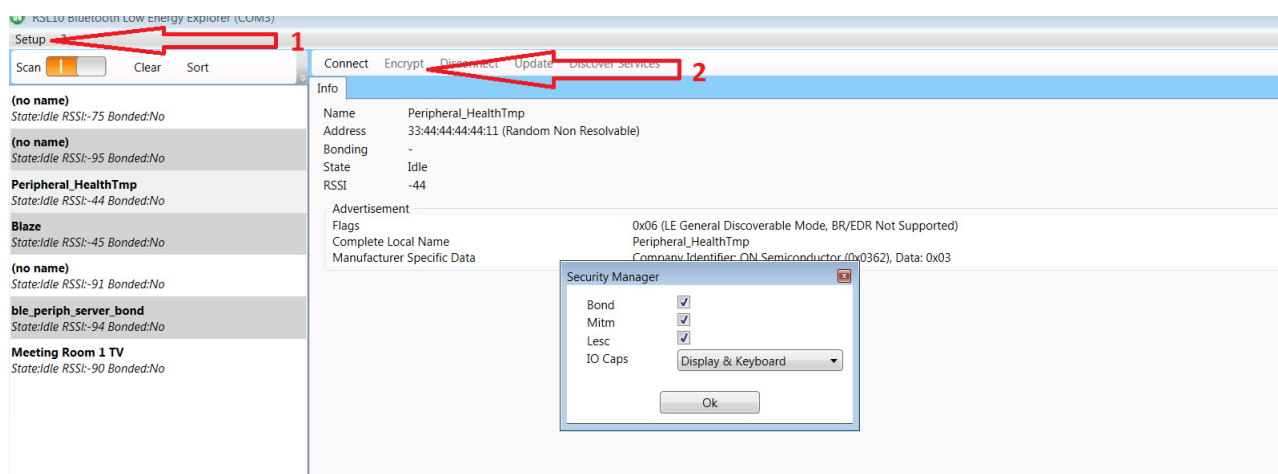

Figure 6. Setting the Security Options
- 1. The supported encryption settings can be selected in **Setup Menu > Security**, as shown in Figure 6. The Security Manager abbreviations are defined in Table 3 on page 8.